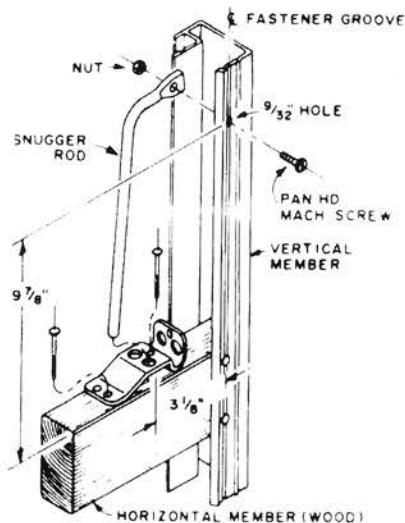

Figure 17
Select a horizontal door member that is at a convenient height and drill one (1) 9/32" diameter hole in the vertical door member. Refer to Figure 17 for hole location.
Slip rod support on straight end of snigger rod and properly position assembly to determine proper location of rod support. Fasten rod support with 2 ring nails as shown. Slip the large link on the end of the chain over the snigger rod and insert snigger rod into the rod support. Secure the opposite end to vertical member using (1) 1/4" fastener and nut as shown. Figure 17.